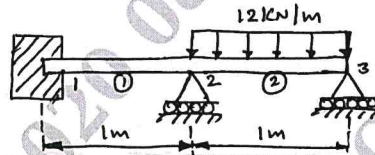

Fig.Q5(a)
b. For the beam and loading shown in Fig.Q5(a), determine the slopes at 2 and 3 and the vertical deflection at the midpoints of the distributed load. Take  $E = 200 \text{ GPa}$ ,  $I = 4 \times 10^6 \text{ mm}^4$ .